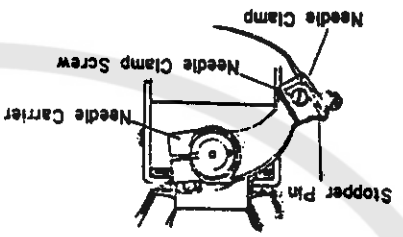

Fig. 5
Loosen 4 knife holding screws and set top edge of knives in parallel with top edge of bracket. Then tighten screw (See Fig. 5)
6. Replacing Needle (Fig. 5)